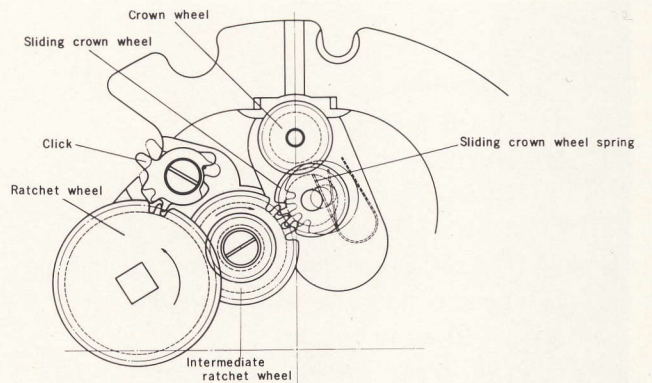

Fig. 16 Operation diagram of sliding crown wheel click viewed from the back side of barrel and train wheel bridge.
5)-2 Sliding crown wheel, click operation diagram (Fig. 16)